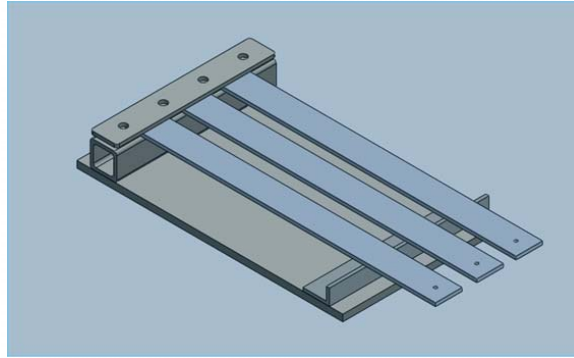

Figure 2 - Bending Load Test Apparatus
- Instrumented cantilever beam test apparatus as shown in Figure 2